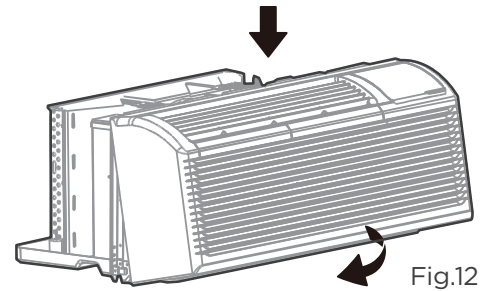

Fig.12
- Reinstall front panel.(See Fig.12)